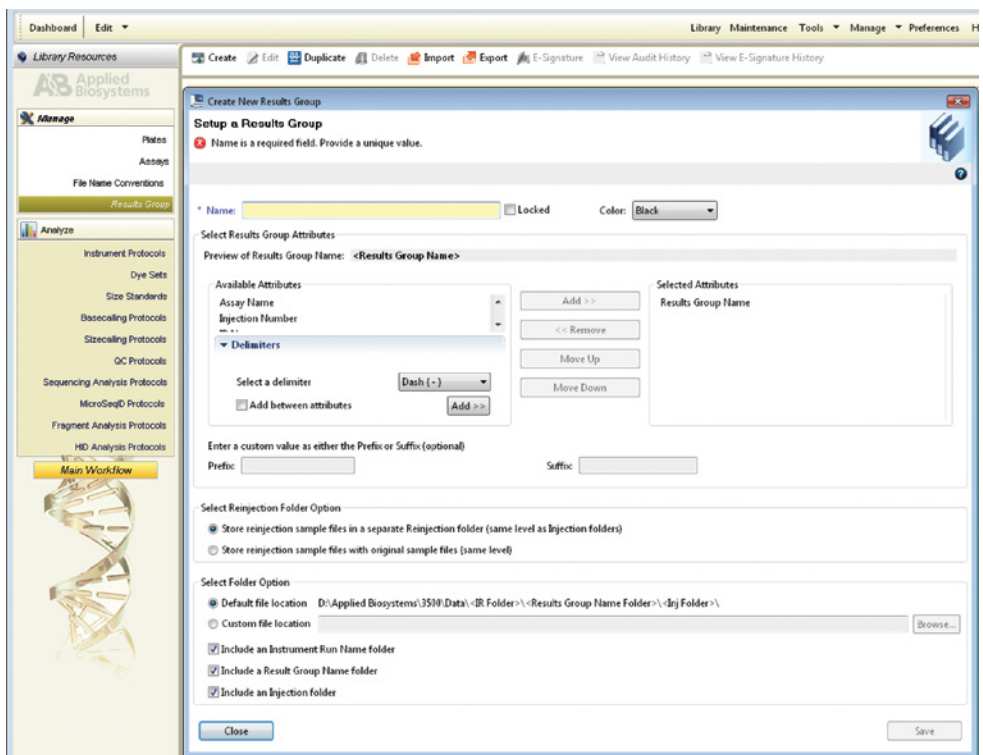

Figure 7. The ‘Create New Results Group’ window.
- 2.f. To create a new Results Group (Figure 7), navigate to the Library. Select **Results Group**, and then select **Create**. Alternatively, a previously created Results Group may be used.